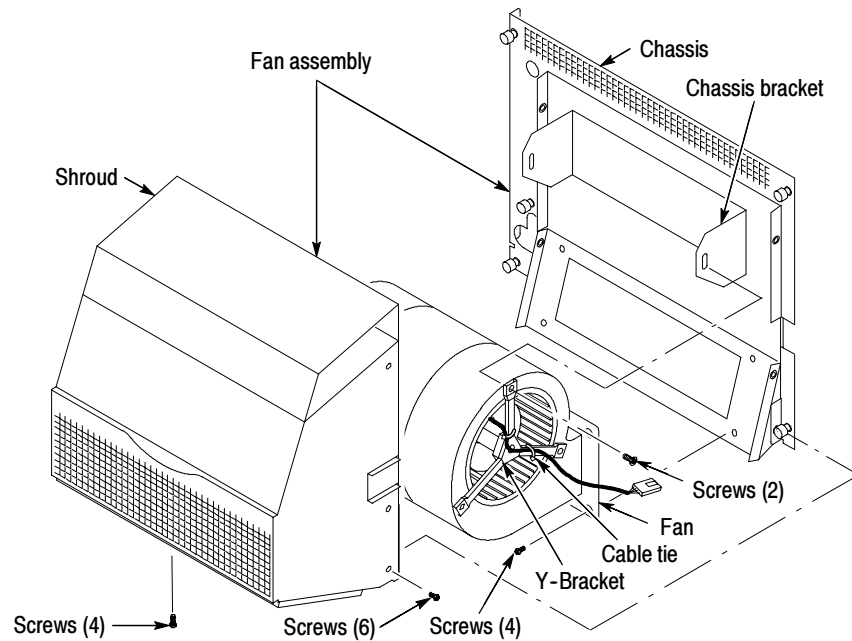

Figure 2: Removing the fan assembly
7. To remove the fan, remove the ten Allen screws holding the shroud part of the fan assembly to the chassis part of the assembly. There are three screws on each side and four on the bottom (see Figure 2 on page 5). Set the shroud aside.